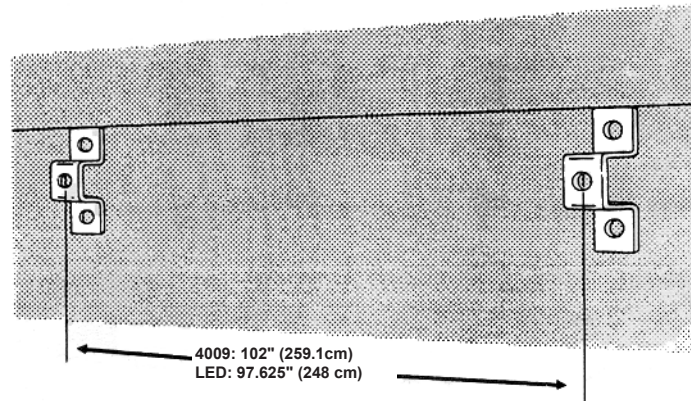

Figure 3-J Flat wall mount using U brackets
- 3) Carefully mark the locations of the holes in the selected mounting brackets. Check the locations of all mounting brackets and drill-holes. Refer to Figure 3-J to check horizontal spacing between brackets.
- 4) When you are sure all marks are accurate, drill mounting holes 2.5 inches (6.4 cm) deep, install mounting hardware in holes, and mount brackets on hardware as shown in Figure 3-G. Make sure all hardware secured to 10 in/lbs torque. Do not overtighten concrete inserts.